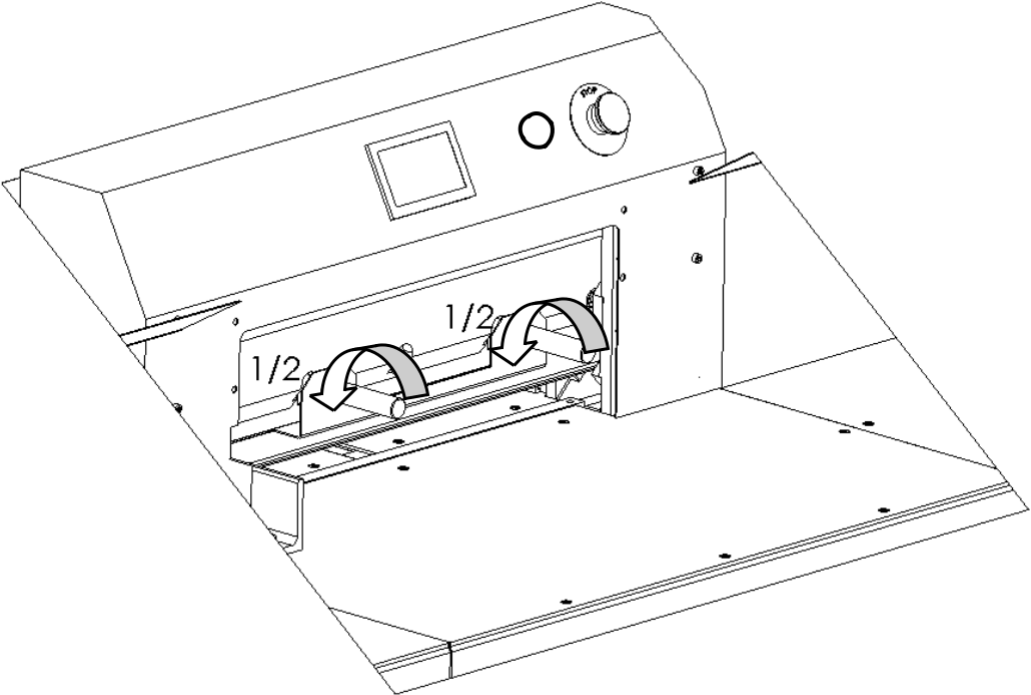
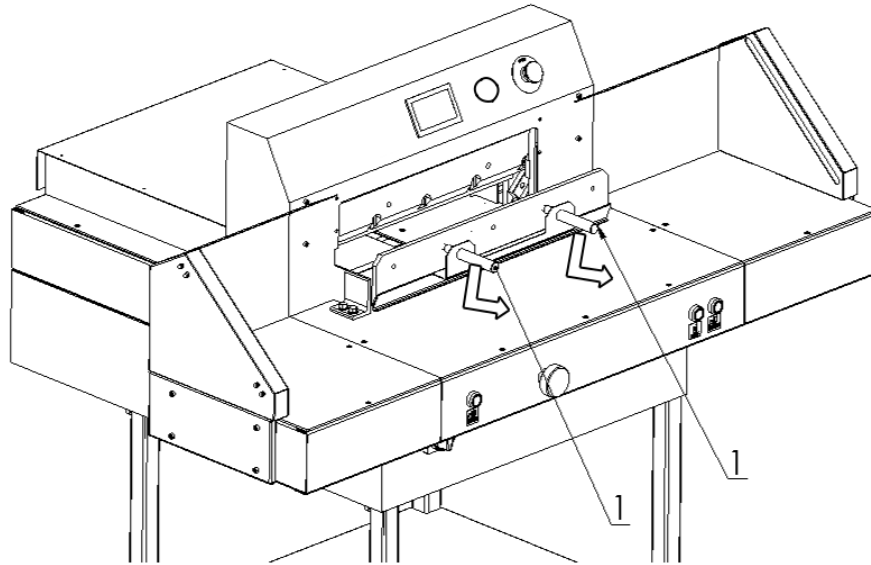
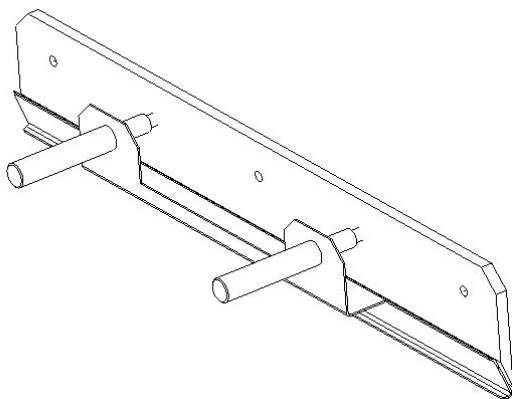

Figure 26
Figure 27
Figure. 28a Knife in the transport handle
8.1.1.13 holding the transport handles release the clamp by turning them 1/2 turn at a time to the left (fig 26) and carefully pull the knife down (fig 27). Take the removed knife into the special protective packaging (Fig. 28a - 28d.) With the blade inwards and fasten it with two screws. To unscrew the bolts fixing the blade knife, use the RWTg 8 wrench provided on the cutter.
8.1.2.2. Remove the knife from the packaging (Fig.28a - 28d)